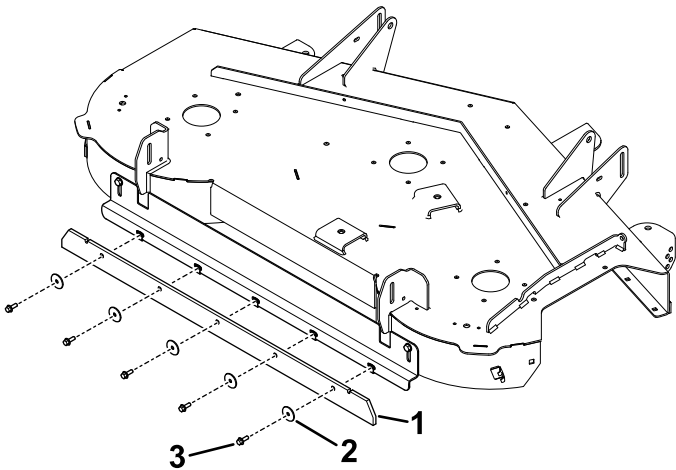

Figure 12
- Install the wiper to the bracket using 5 bolts (1/4 x 3/4 inch) and 5 washers (Figure 12).